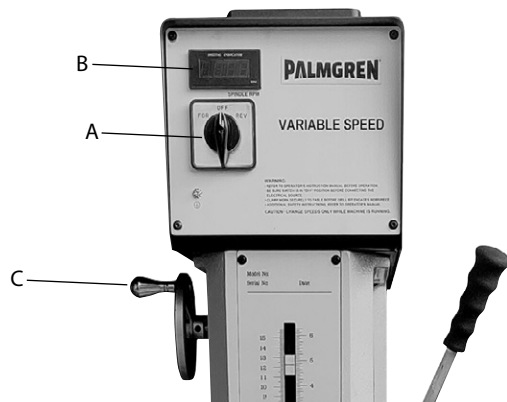

Figure 1 - Control Panels.
Change speeds only while the machine is running. Then spindle speed can be adjusted to the proper cutting RPM by using the spindle speed handle (F, fig.1). The spindle speed range is from 300 RPM to 2000 RPM.
Refer to figures 1 and 3 on pages 4 and 5.
5. Start the machine and select rotation direction using knob (A, fig. 1).
6. Set spindle speed using speed control handwheel (C, fig. 1).
8. Set the drilling depth stop (M) to required depth.